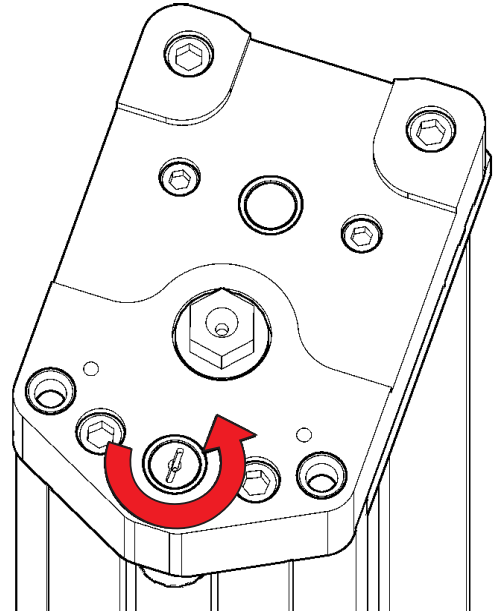

FIGURE 4-2. MANUAL FEED MOVEMENT
6. If necessary, manually feed the RDU away from the feed tower stop (see Figure 4-2).